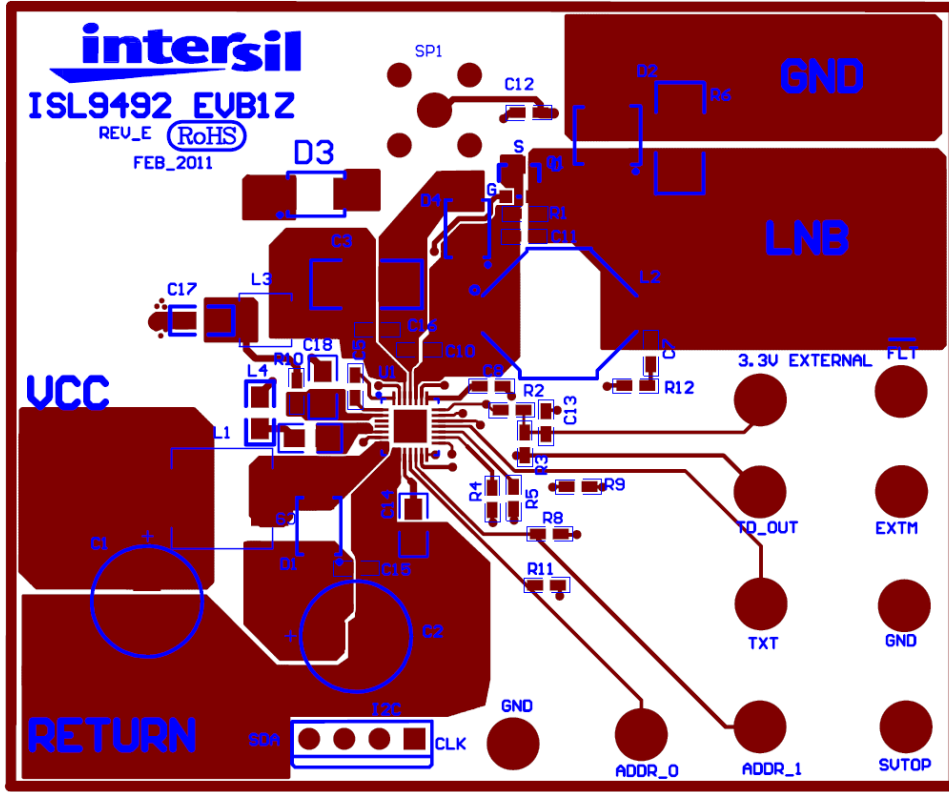
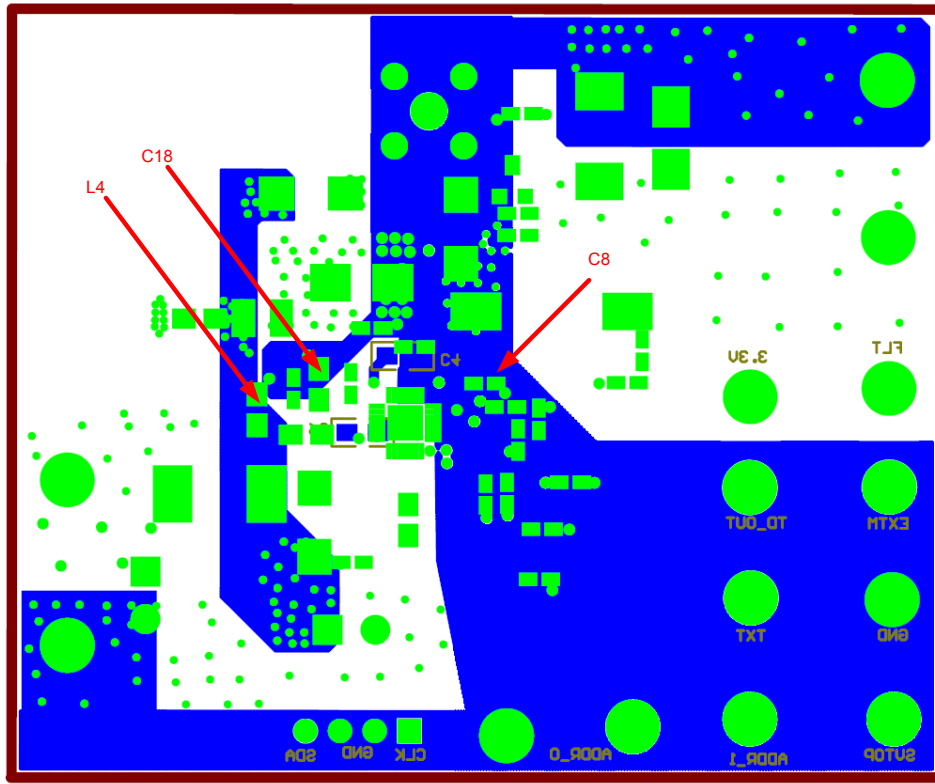

FIGURE 9. 4 LAYER - TOP
FIGURE 10. 4 LAYER - INNER GROUND
1. Boost input capacitor (C1, C6), output boost capacitors (C2, C15), inductor (L1), Schottky diode D1 should be placed together in a nice tight layout. The ground connection of C1, C2, C15, C6, ISL9492 pins 8, 9 and C14 should go directly to the GND input supply as shown in Figure 9.
2. C3, C16 and C10 ground connection is returned directly to pin 25, LDO-SGND (see Figure 9). Ground connection of L4, C18, C8, C4, and pin 20, are dropped directly to an internal ground island (see Figure 10). This layer is connected to the ground plane at C1 ground connection.